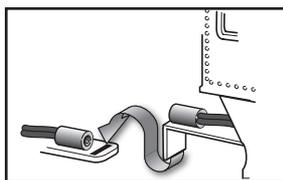

Figure 1. Drawbar connection
2. Place your locomotive and tender on the track and connect the drawbar as shown in Figure 1.
- 2. Place your locomotive and tender on the track and connect the drawbar as shown in Figure 1 on page 5.**
- 1. With track power off, place your locomotive and tender on the track. Connect the drawbar as shown in Figure 1 on page 5.**